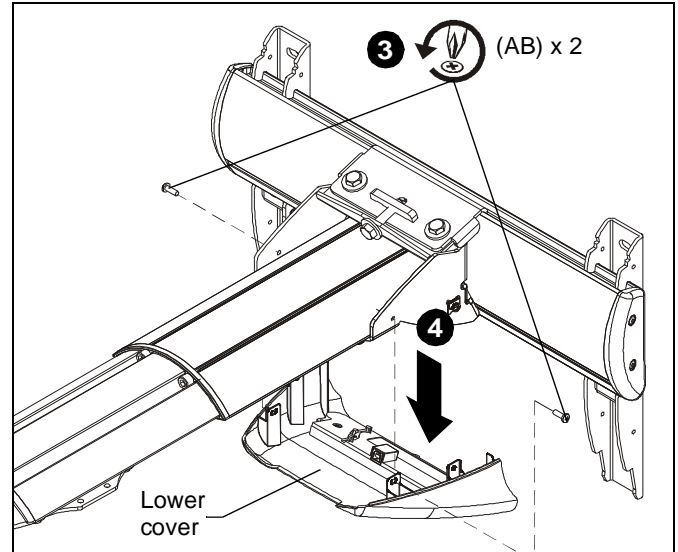

Figure 26
3. Remove and save two 8-32 x 3/8" Phillips pan head screws (AB) from lower cover. (See Figure 26)
4. Remove the lower cover from the wall mount. (See Figure 26)